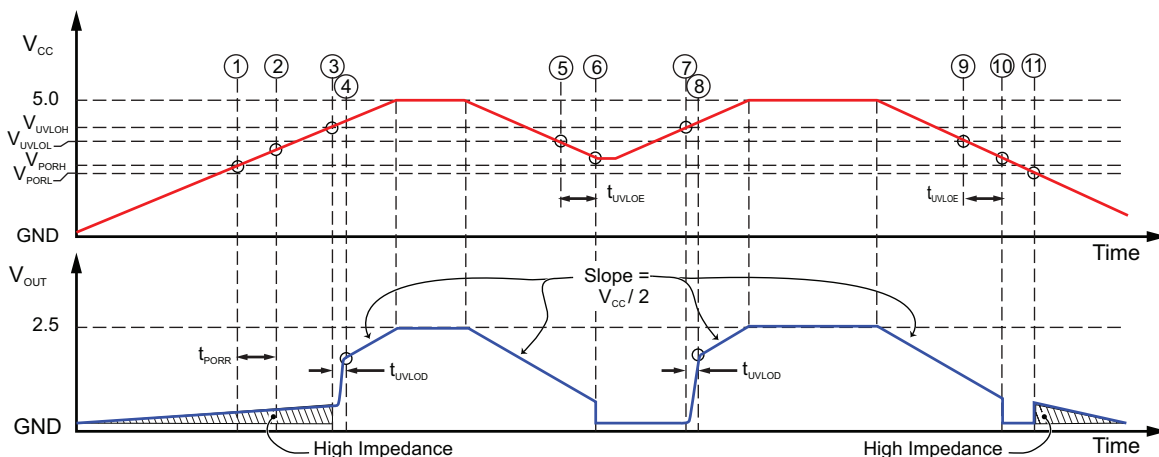
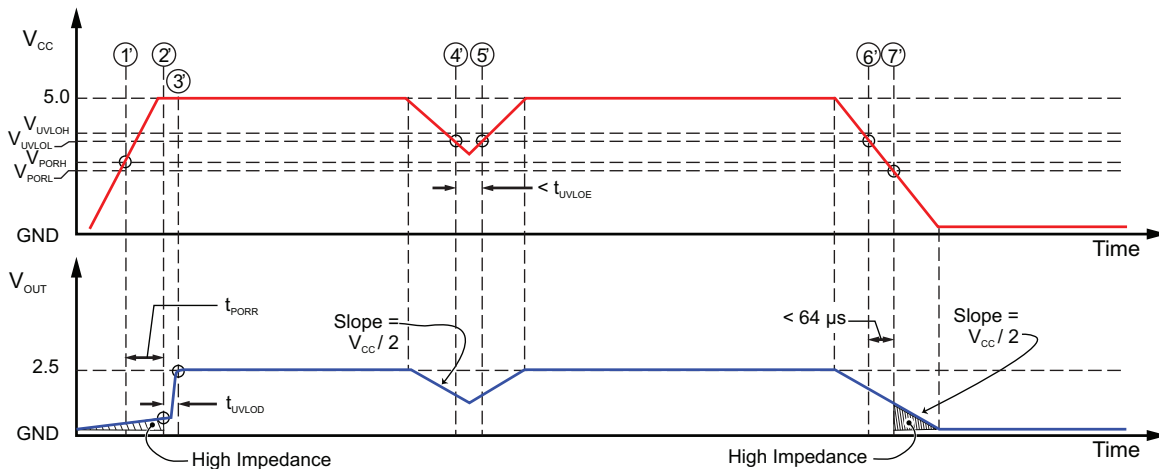

Figure 11: POR and UVLO Operation – Slow Rise Time Case
Figure 12: POR and UVLO Operation – Fast Rise Time Case
- Power-Up** At power-up, as  $V_{CC}$  ramps up, the output is in a high-impedance state. When  $V_{CC}$  crosses  $V_{PORH}$  (location [1] in Figure 11 and [1'] in Figure 12), the POR Release counter starts counting for  $t_{PORR}$ . At this point, if  $V_{CC}$  exceeds  $V_{UVLOH}$  [2'], the output will go to  $V_{CC}/2$  after  $t_{UVLOD}$  [3']. If  $V_{CC}$  does not exceed  $V_{UVLOH}$  [2], the output will stay in the high-impedance state until  $V_{CC}$  reaches  $V_{UVLOH}$  [3] and then go to  $V_{CC}/2$  after  $t_{UVLOD}$  [4].